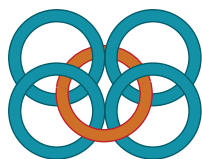

FIG. 2
3. Arrange the jump rings on your work surface so that all the jump rings lie flat, as shown in FIG. 2.